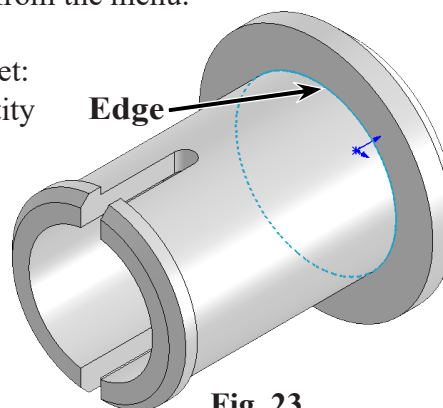

Fig. 23
Step 1. Rotate view to under cap, **Fig. 23**. To rotate view, **Shift click the X**
click **top circular edge of shaft under cap**, **Fig. 23**